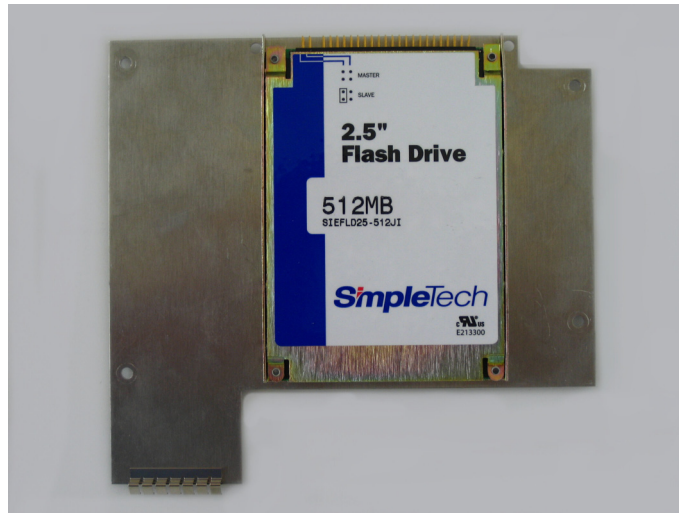

Figure 3-13 New 2.5" flash disk
- Screw the new 2.5" flash disk onto the carrier plate (see Figure 3-13).